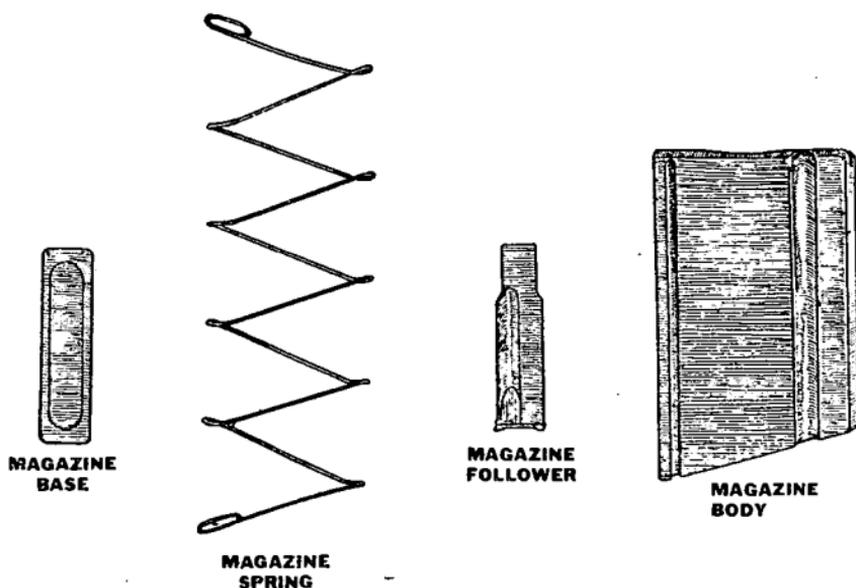

FIGURE 7.—Magazine.
■ 12. **DISASSEMBLING AND ASSEMBLING MAGAZINE** (fig. 7).—Raise rear end of magazine base until indentations are clear, then slide it to the rear. The magazine spring and follower will then fall out. It is assembled in the reverse order.